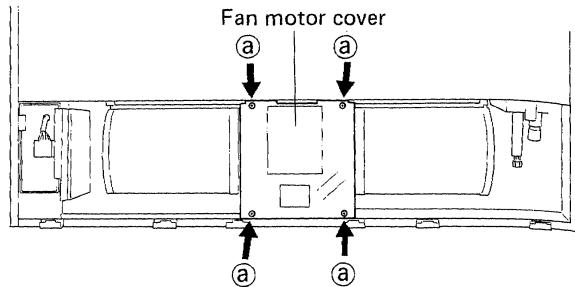

Fig. 7
- 3) Remove the four screws ④ fixing the fan motor cover. Fig. 7